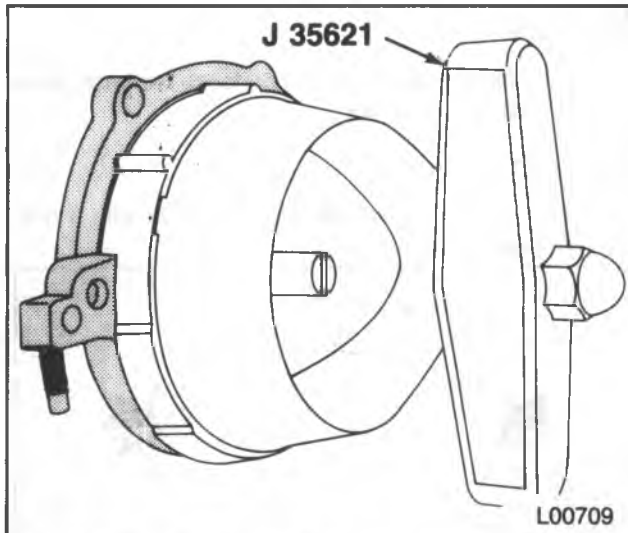

Figure 21 — Installing the Rear Crankshaft Oil Seal
Install or Connect (Figure 21)
1. Rear crankshaft oil seal (figure 21).